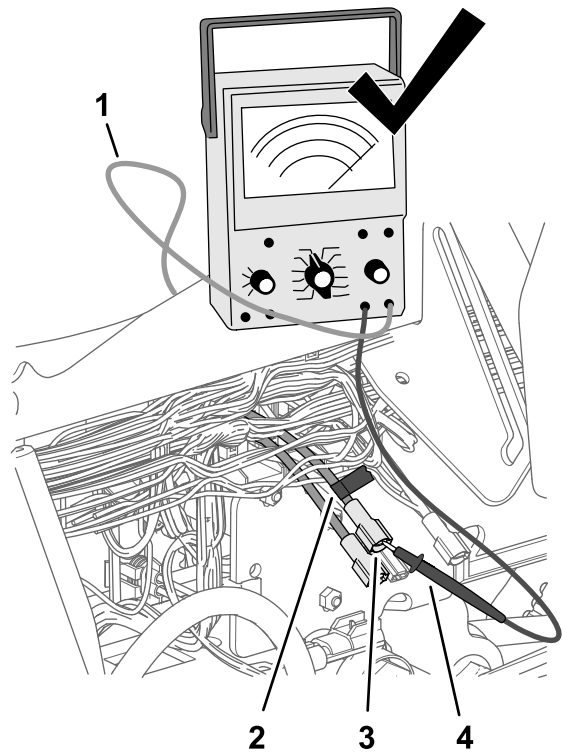

Figure 235
4. Use a piece of tape to mark the connector and wire that you identified in step 3 (Figure 235).